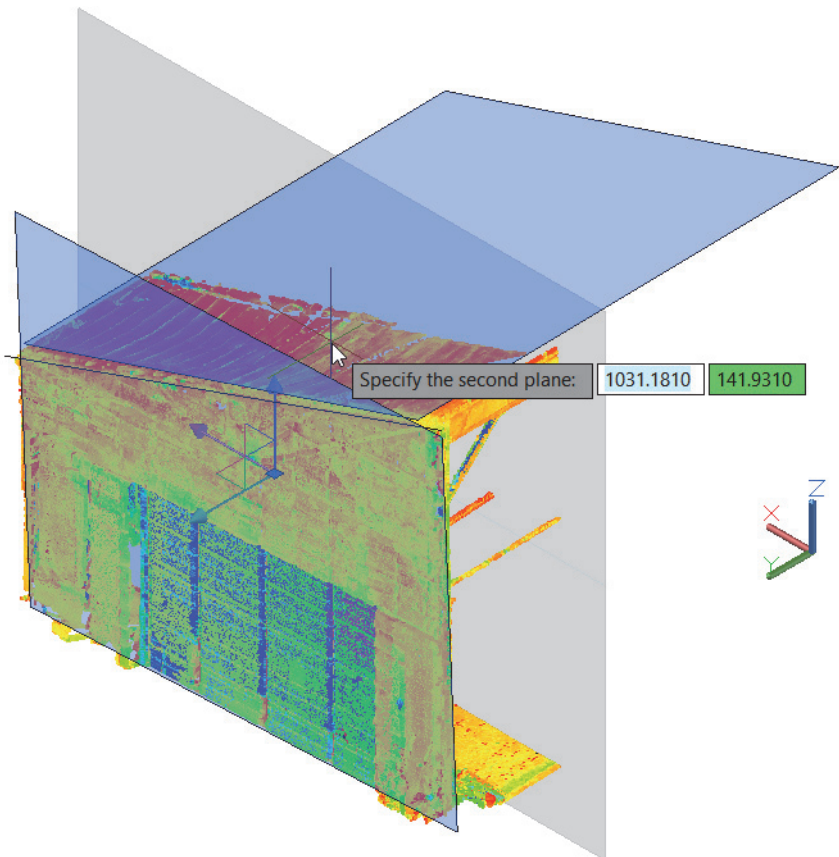

Figure 9–29
10. In the model, click the north wall and the roof for the planes to create an edge from, as shown in Figure 9–29.